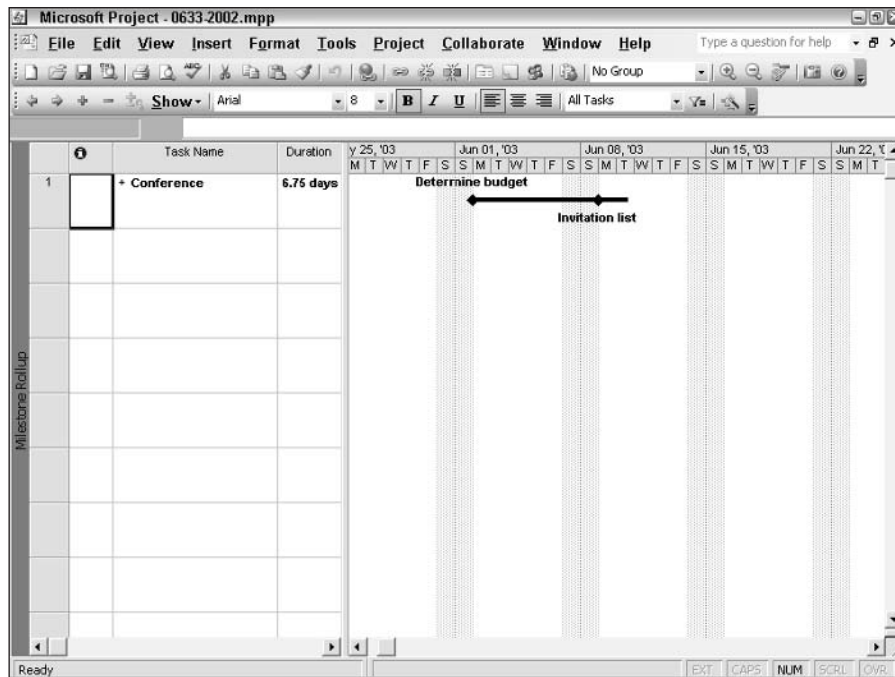
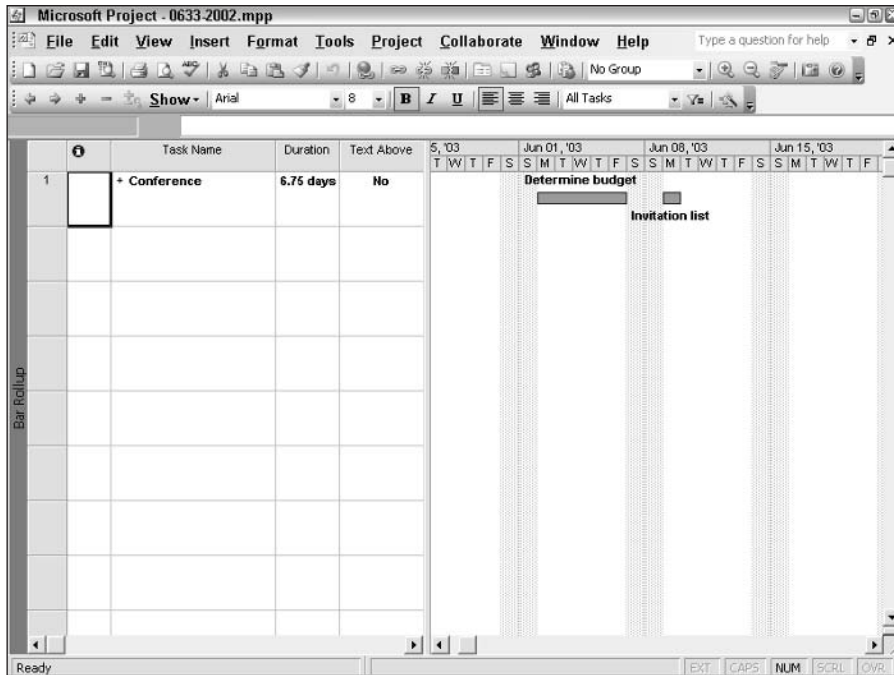

Figure 6-39: When you format rollup tasks as milestones, Project displays your project using the Milestone Rollup view.
Figure 6-40: When you format rollup tasks as bars, Project displays your project using the Bar Rollup view.
7. Select Bars to display rolled up tasks as bars, or select Milestones to display rolled up tasks as milestones, and click OK. Project displays the rolled up version of your project, as shown in Figure 6-39.
When you use the `Rollup_Formatting` macro, Project displays only those tasks that you formatted for rollup. The table that you see in the sheet portion of all of these views is the Rollup table, but you can switch to another table by using the techniques that are explained in the section “Changing a Table,” earlier in this chapter. Figure 6-39 showed the Milestone Rollup view that Project displays if you selected Milestones in Step 7. If you select Bars in Step 7, Project displays the Bar Rollup view, as shown in Figure 6-40.